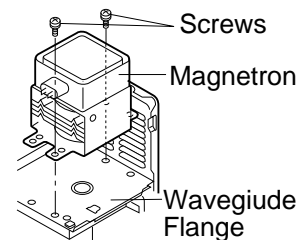

Figure C-1. Magnetron Replacement
1. Re-install the magnetron to the waveguide flange with two (2) screws diagonally as shown in Figure C-1.